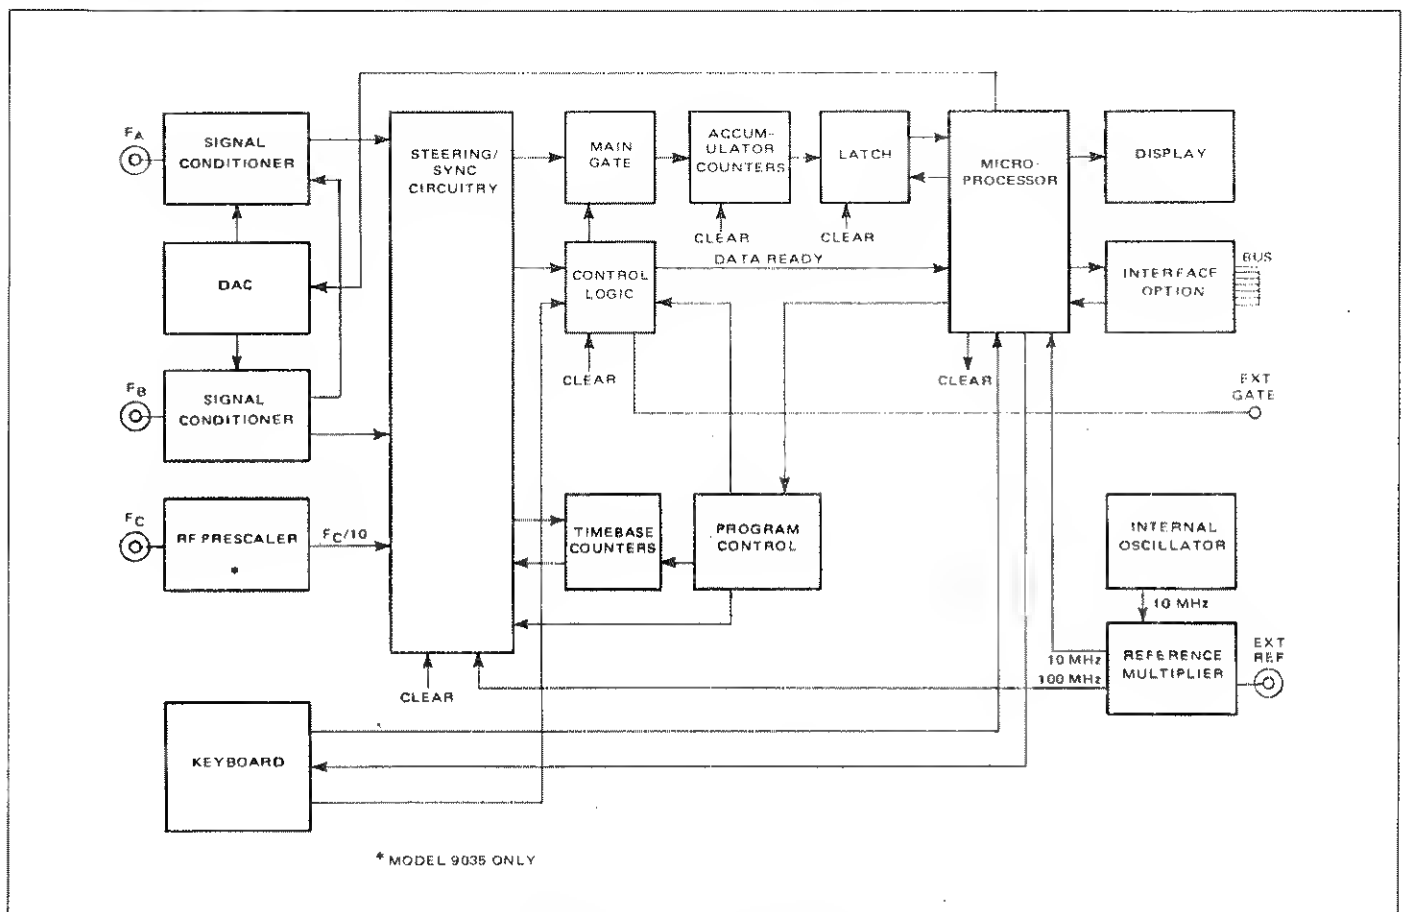

Figure 4.1 - 9000 Block Diagram
4.1.1 This section covers the Theory of Operation of the Series 9000 Microprocessing Timer/Counter. The operation is first analyzed in terms of a basic block diagram (figure 4.1); second, the various operating modes are examined; and third, individual circuits are described.
4.2.1 The Series 9000 is shown in block diagram form in figure 4.1. Referring to this drawing, input signals are processed through the signal conditioner or RF prescaler and fed to the steering synchronizing circuitry. Depending on the function selected, the steering circuitry routes the input signal to the main gate, control logic or the timebase. The synchronizing circuitry is used in the TIA function.